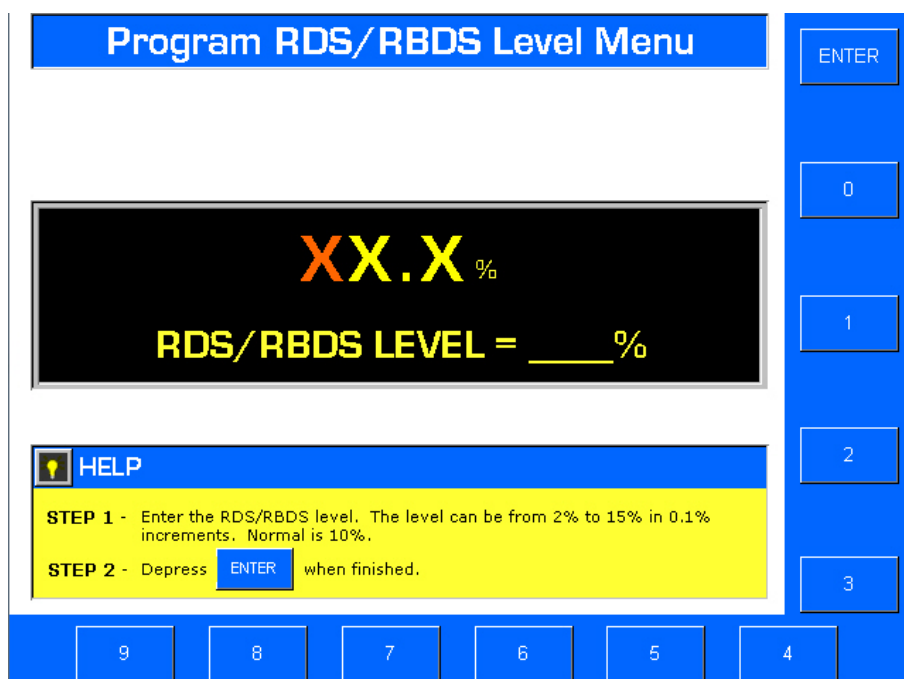

Figure 3-30. PROGRAM RDS/RBDS LEVEL MENU
- A. Depress RDS/RBDS LEVEL. The Internal Program RDS/RBDS Level Menu will appear (refer to Figure 3-30).